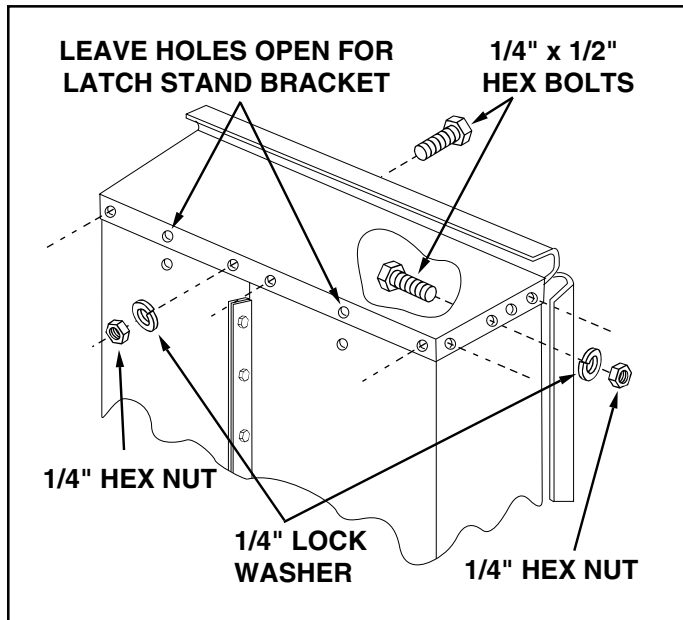

FIGURE 5
9. Assemble the front panel over the open end of the cart using ten 1/4"x1/2" hex bolts, 1/4" lock washers and 1/4" hex nuts. Insert bolts down through the two middle holes and the two outside holes in the bottom of cart body, and through the top, bottom and middle holes on each side of the cart body. Check that the cart halves are butted together and **tighten** the bolts through the bottom of the cart first; then **tighten** the bolts through the sides of the cart. See figure 5.